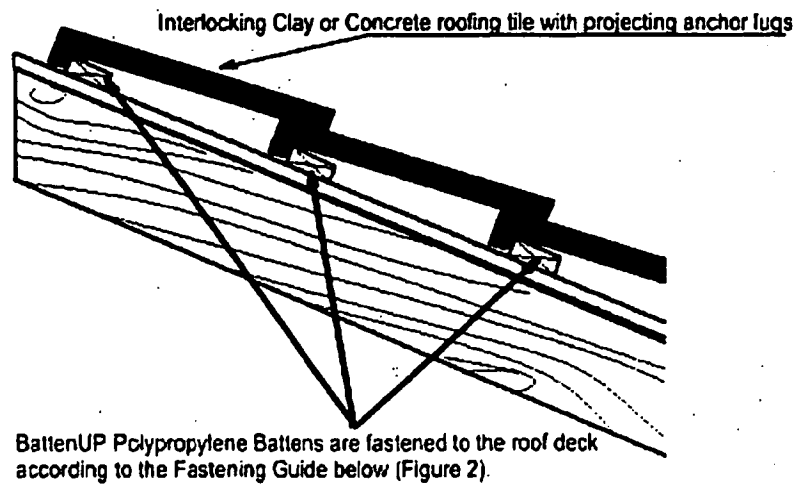

FIGURE 1—TYPICAL SECTION
2.2.1 Battens: The battens are made from extruded polypropylene, and are 1½ inches (38 mm) wide by ½ inch thick (12.7 mm), and 48 inches (1219 mm) long. The battens are manufactured with 0.044-inch-thick (1.12 mm) top and bottom flanges, and 0.038-inch-thick (0.97 mm) vertical stiffeners that form openings measuring 0.372 inch wide by 0.412 inch high (9.4 by 10.5 mm) between the top and bottom surfaces of the batten. See Figure 1.
the battens shall be oriented to allow water to drain down the slope and pass through the batten openings. The battens are fastened to the roof deck with minimum 1½-inch-long-by-7/16-inch-crown (31.7 mm by 11.1 mm) No. 16 gage, corrosion-resistant staples spaced at 6 inches (152 mm) on center. The staple crown is installed parallel to the length of the batten (across the vertical stiffeners), starting and ending 1 inch (25 mm) from each end of the batten. The tiles shall be installed with the projecting anchor tile lugs fully engaged with the batten. The tiles shall be attached through the batten to the roof deck and in accordance with the applicable code except for "S"-shaped tiles, for which all tiles shall be fastened. See Figures 1 and 2.